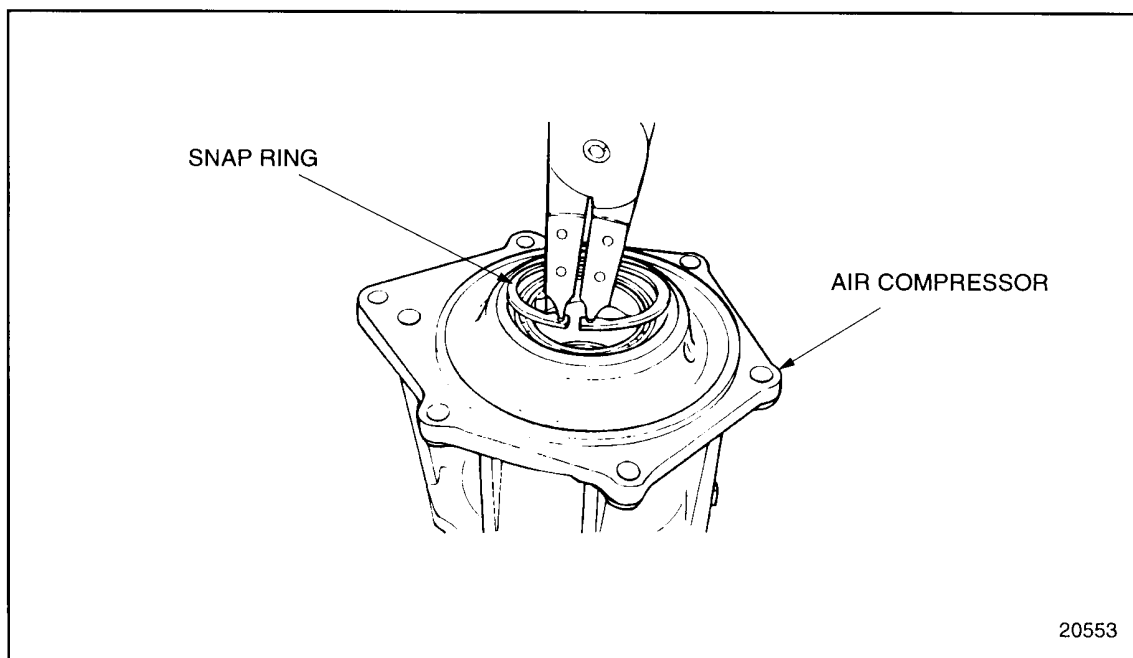

Figure 10-21 Snap Ring Installation
4. Install the snap ring retaining the ball bearing in the housing using snap ring pliers. See Figure 10-21.